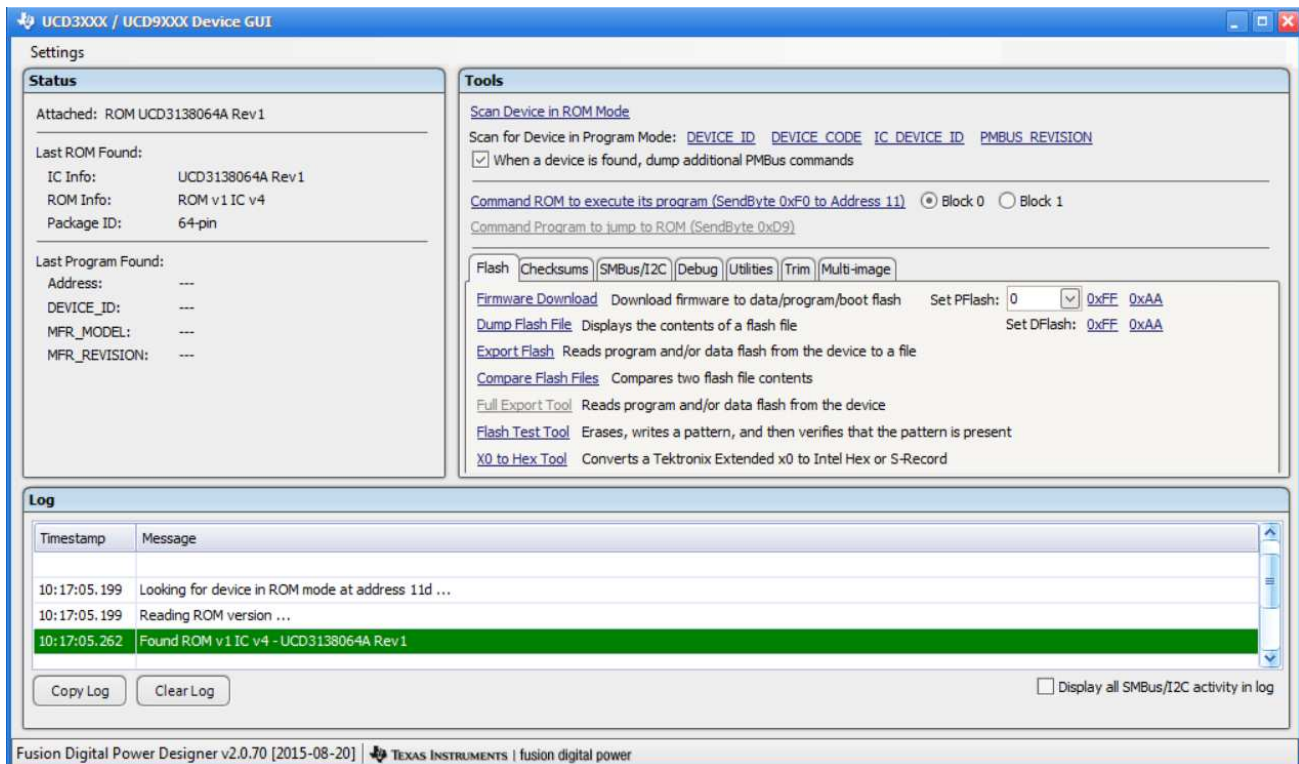

Figure 5. UCD3XXX / UCD9XXX Device GUI
3. Launch the UCD3XXX / UCD9XXX device GUI following the steps described in section 6.1.3. A window like the one shown in Figure 5 appears.
Erasing the downloaded firmware from the UCD3138064A flash memory is done with the following steps and by referencing Figure 5: